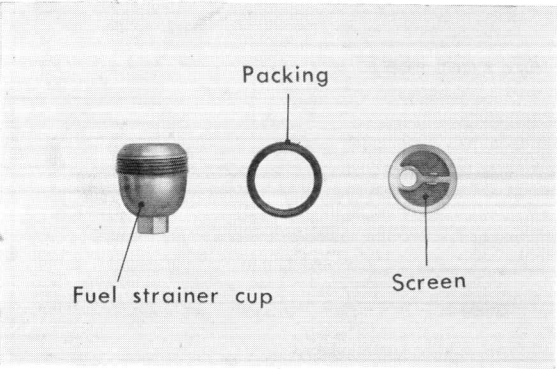

Figure 6-18. Cleaning fuel strainer
- c. Clean inside the strainer cup and filter screen. (Fig. 6-18)